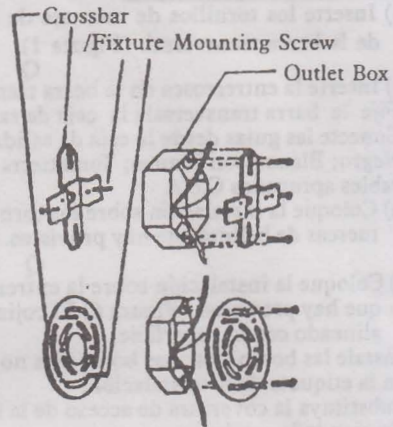

FIG.1 FIG.3
1. a) Insert fixture mounting screws into appropriate holes of crossbar. (FIG.1)